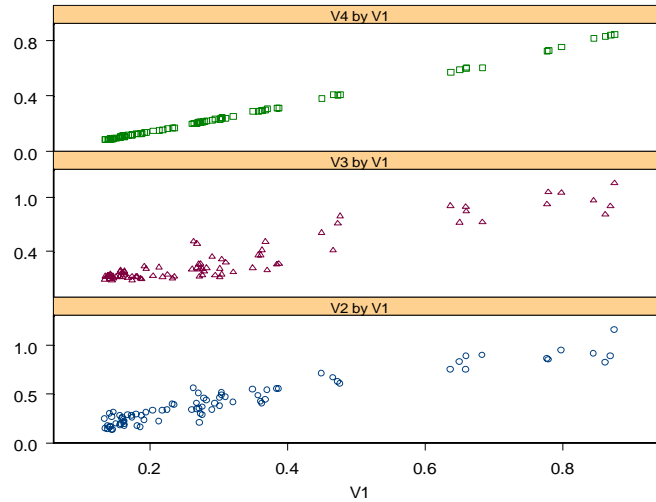

Figure 3.35: *Multiple plots in separate panels for the sensors data.*
4. Remove the legend by selecting it and pressing the DELETE key. The resulting graph is shown in Figure 3.35.